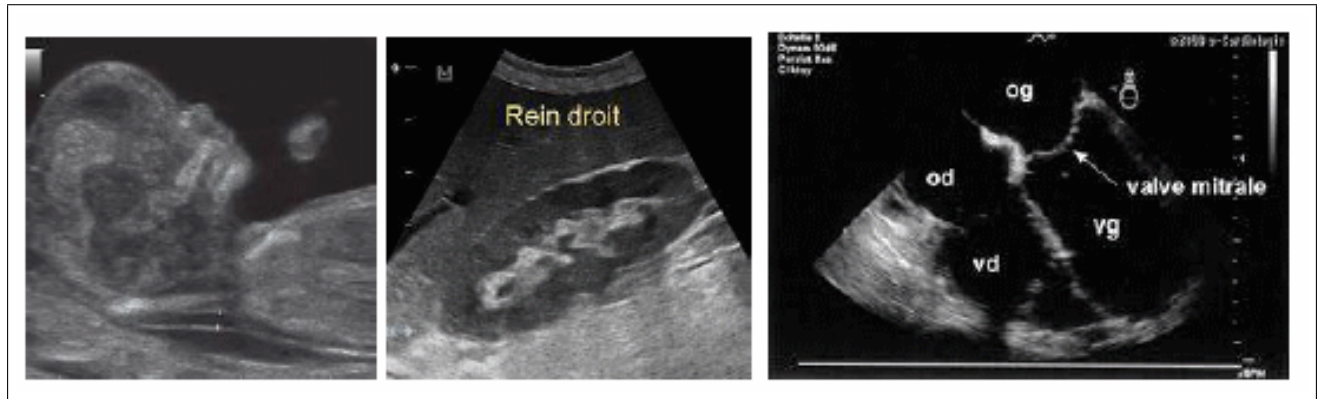

Figure 6.12: Echography Image's.
* The echoes are then **converted** into electrical **energy** and displayed on a screen (Figure 6.12).